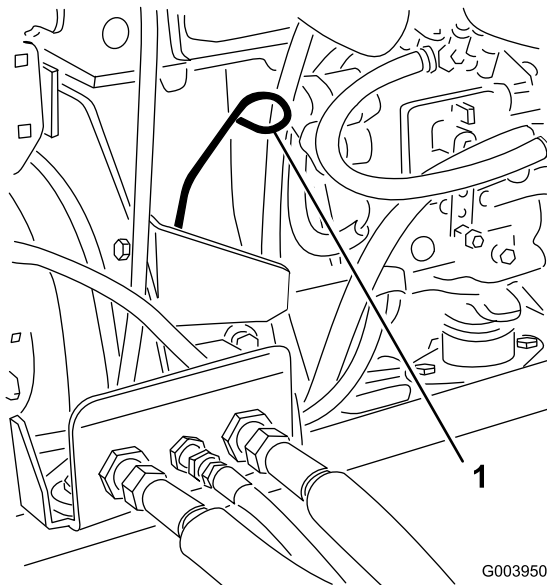

Figure 29
3. Remove the dipstick, wipe it clean, and install it (Figure 29).